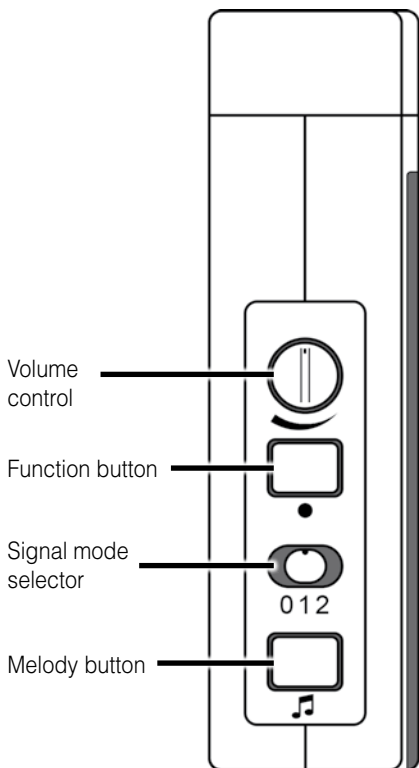

Figure 2: Controls, left side
Using the signal mode slide switch (in fig. 2 "0 1 2") you can select the signal mode. Kindly keep in mind that the event icons are always displayed by coloured LEDs.
- a) Keep the function button »●« (fig. 2) pressed for some time. The icons light up in sequence. Let go of the button as soon as you see the desired icon.